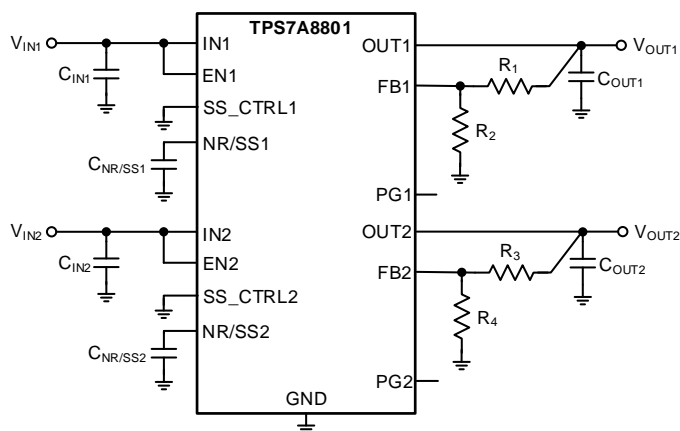

图 42. Adjustable Operation
The output voltages of the TPS7A8801 can be adjusted from 0.8 V to 5.0 V by using resistor divider networks as shown in 图 42.
(1) R1, R3 are connected from OUTx to FBx; R2, R4 are connected from FBx to GND; see 图 42.